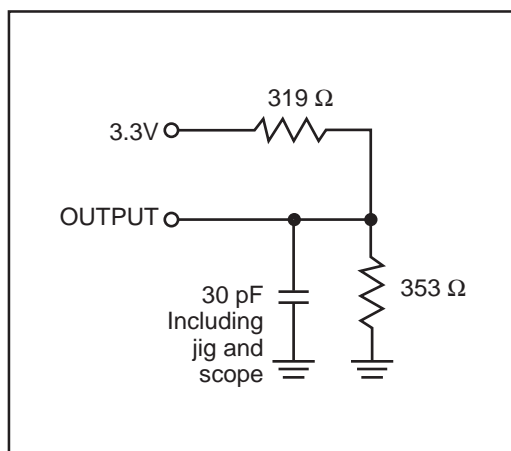

Figure 1
- Test conditions assume signal transition times of 3 ns or less, timing reference levels of 1.5V, input pulse levels of 0V to 3.0V and output loading specified in Figure 1.
Output Load	See Figures 1 and 2
1. Test conditions assume signal transition times of 3 ns or less, timing reference levels of 1.5V, input pulse levels of 0V to 3.0V and output loading specified in Figure 1.